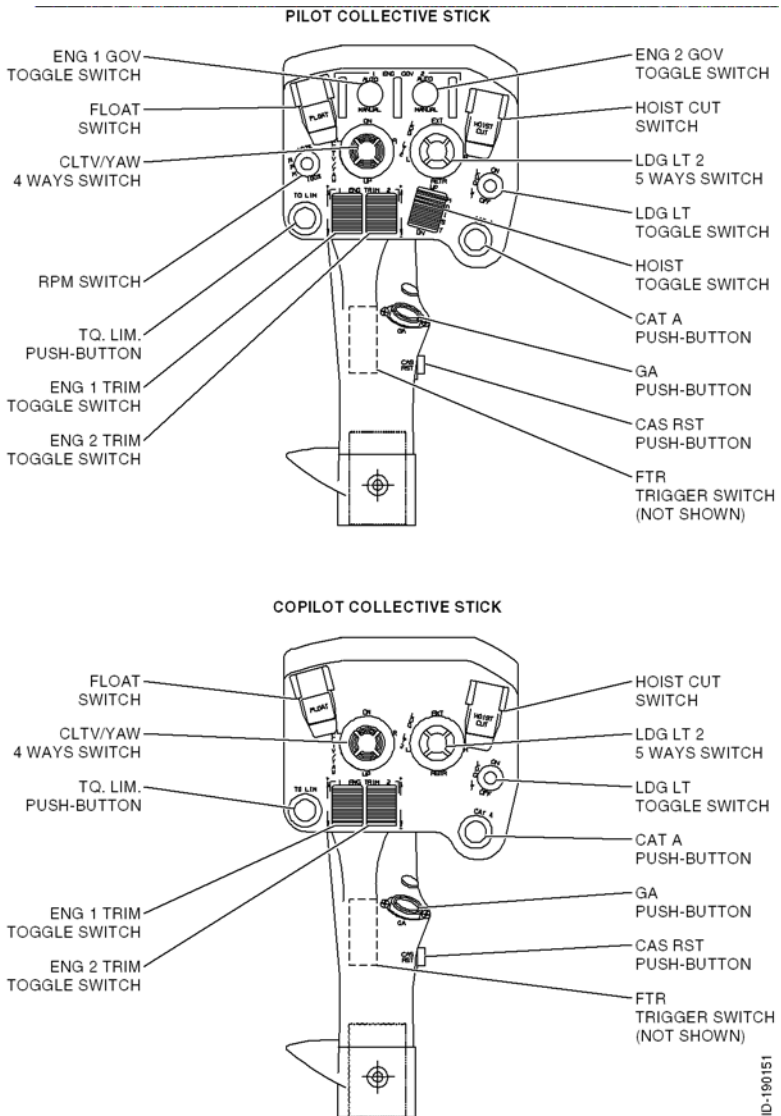

Figure 8-5
The guidance controller controls the go-around (GA) capability of helicopters equipped with a flight director. The pilot initiates an automated go-around by pushing the **GA** button on the collective control head, shown in Figure 8-5.
The collective control, shown in Figure 8-5, is activated by engaging a flight director collective mode with the collective/yaw switch force trim switch (located on the miscellaneous control panel) in the ON position and the flight director is coupled.
NOTE: Figure 8-5 shows the collective stick head where the collective FTR switch and beep trim are installed.